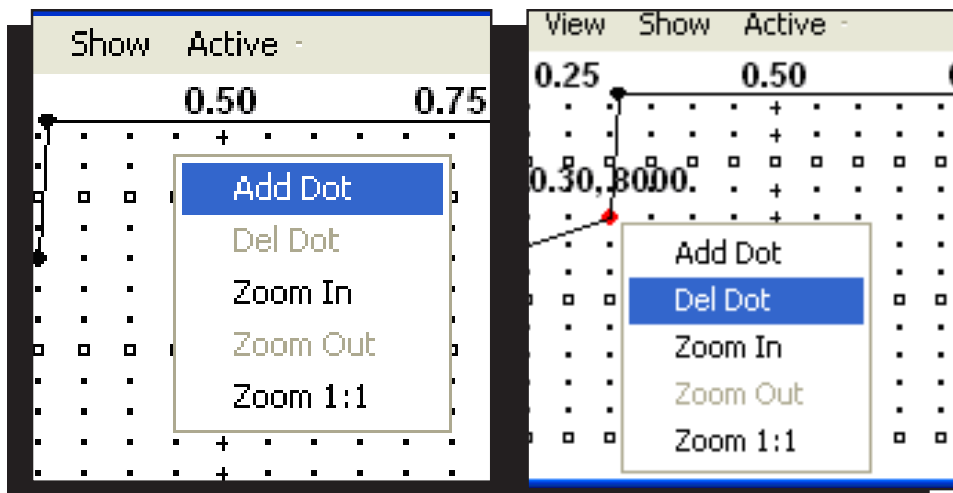

Figure 6 Adding and Deleting Points.
3. To move an existing dot on the screen, left click the dot so it turns Red (active). You can then click and drag that dot to a new point on the screen (Figure 6).
4. To add a new dot, right click when the cursor is in the area to program and select "Add Dot". You can then move the dot to the precise point (Figure 6).